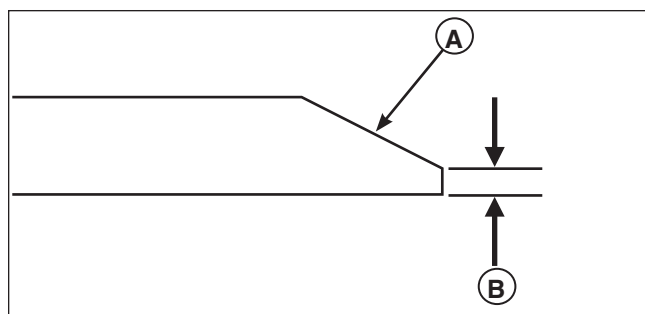

Figure 30. Sharpening the Mower Blade
3. Keep the original bevel (A, Figure 30) when grinding. DO NOT change the mower blade bevel.
4. The mower blade should have a maximum 1/64" (0,40 mm) cutting edge (B) or less.